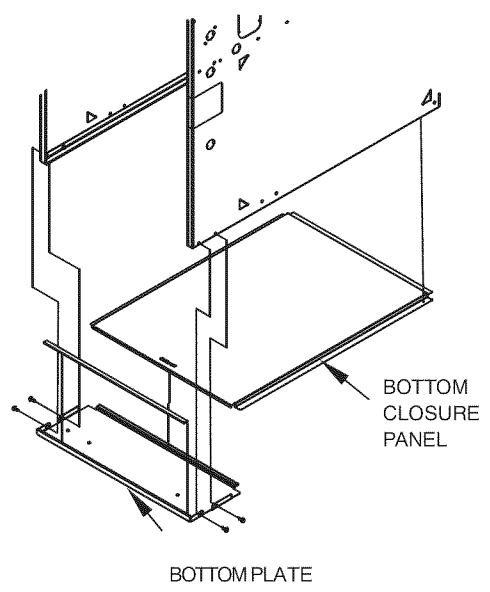

Fig. 22 - Removing Bottom Closure Panel
1. Tilt or raise furnace and remove 4 screws holding bottom plate. (See Fig. 22.)